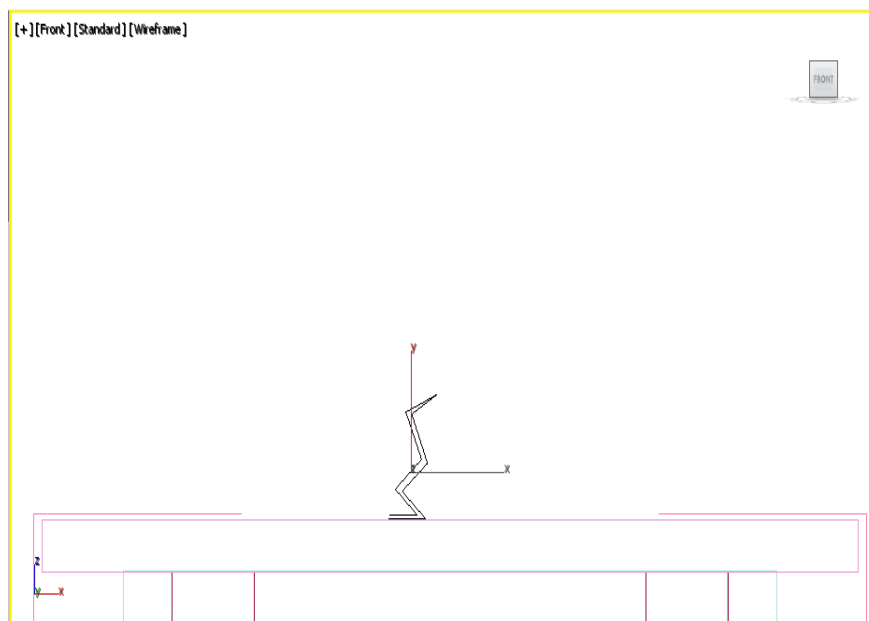

Figure 5-11 The profile of the Jug
7. Right-click to exit the **Line** tool; a double-line profile of the jug is created. Use the **Zoom** and **Pan** tools, if needed, to display the entire profile of the jug, refer to Figure 5-11.